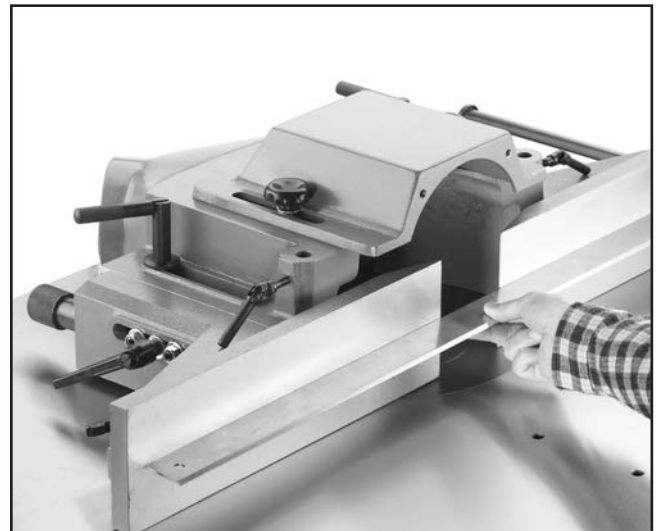

Figure 12. Aligning fences with straightedge.
2. Adjust one or both fence halves so they are in close alignment. Micro-adjust and check the alignment with a straightedge as shown in **Figure 12**.